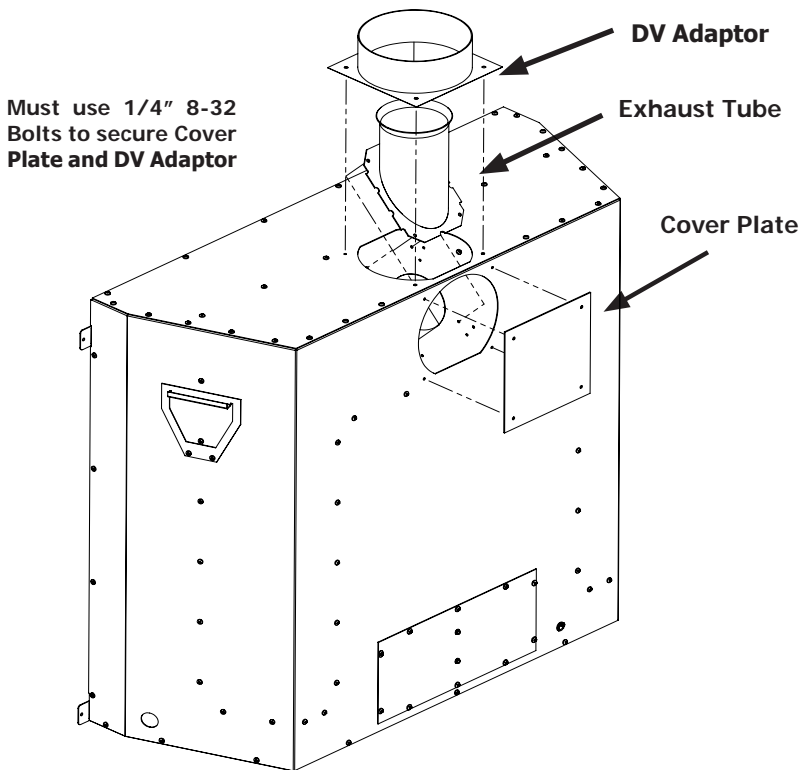

Figure 24. Vent Conversion - Step 1
Step 1: Using a T-20 screwdriver remove the DV Adaptor, Exhaust Tube, and cover plate (12 screws total) as shown in Figure 24.